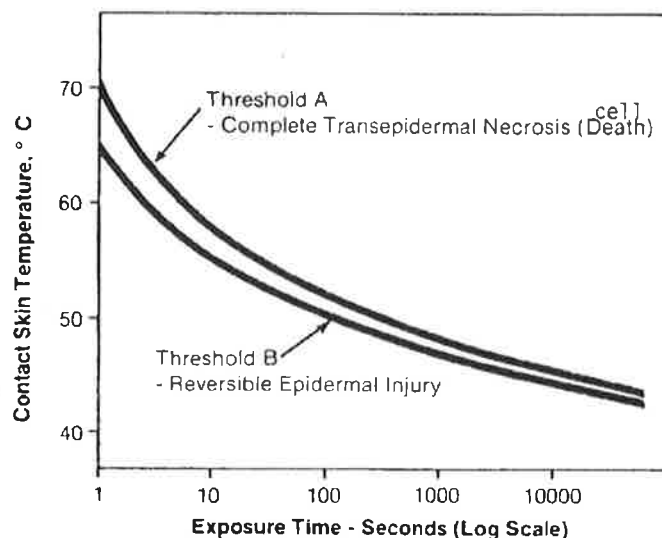

FIG. 1 Temperature-Time Relationship for Burns
4.2.3 Next, utilizing the contact time (4.2.1), the maximum surface temperature (4.2.2), and the graph, Fig. 1, the user determines the potential injury level. If the operating point falls below the injury level specified (4.2.1), then no further analysis is required. (See Note 1.)
NOTE 1—The following equations have been developed from the original data used to generate Fig. 1 for easier use of this figure.
6.2.2 *Acceptable Injury Levels*—The acceptable injury level is that of first degree burns as defined in 3.1.6 and is the limit represented by the bottom curve in Fig. 1.
6.5 With the measurement or estimation of surface temperature for the system in question, utilize the graph (Fig. 1) and
NOTE 5—The threshold temperature used will depend on the limits of acceptable burn chosen in 6.2.2. If the burn level is first degree, use threshold line B in Fig. 1. If second degree burns are acceptable, use threshold line A in Fig. 1.
6.7.1 The calculation technique provided in Practice C1057 uses system geometry, material properties, and temperature conditions to estimate the maximum contact temperature used in Fig. 1 when the heat capacity effects of the surface are to be considered. Once this maximum contact temperature is determined, the user returns to steps 6.5 – 6.7 for the refined analysis.
6.7.2 An alternative to calculation of the contact temperature is available for those systems that are already operating. The thermesthesiometer (13) provides an analogue measurement of the same phenomenon as the computer method models (6.7.1). Care should be used in applying the thermesthesiometer since it must be applied at *worst case* conditions if the hazard potential is to be evaluated. Practice C1057 outlines the correct procedures for use of this device for surface hazard evaluation. The output from the thermesthesiometer is the maximum contact temperature of the skin that can be related to Fig. 1 with no corrections for surface type needed.
X1.2.3.6 The level of skin damage to the duration and intensity of surface contact can be related by the following curve (Fig. 1). Exposures below the lower curve should not produce permanent injury in normal humans. Exposures between the curves are described as second-degree burns and have intermediate levels of cell damage. Exposures at levels above the top line are defined as third-degree burns that cause deep, permanent cell damage and scarring.